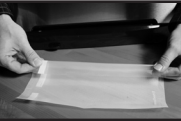

Fig. 5
- 2. Fold end of bag to create a loop (as shown in Fig.5) with the sealed bag so the Heat Sealed area is above the cutter.